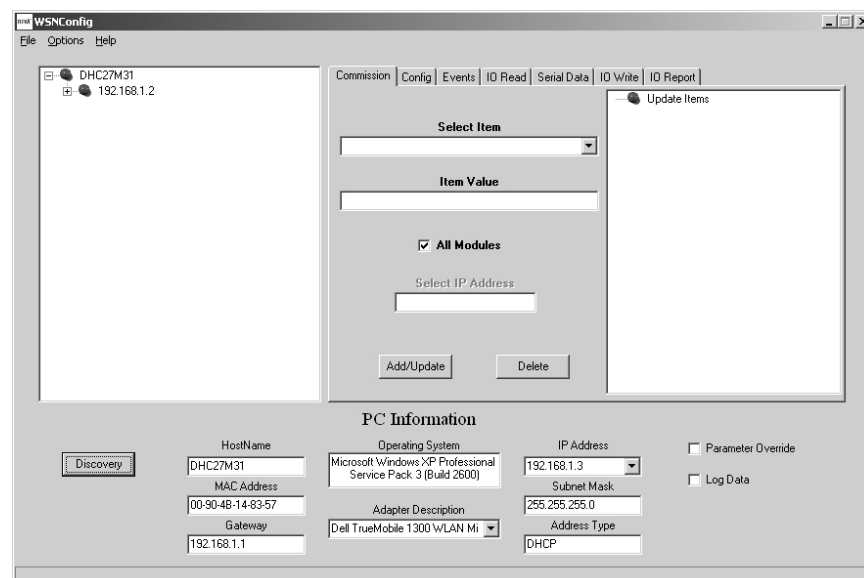

Figure 3
6. Start the WSNConfig.exe program. Click on the WSNConfig.exe *Discovery* button. In a few moments the IP address of the WSN802G module will be displayed near the top of the left hand text box on the WSNConfig window, as shown in Figure 3.